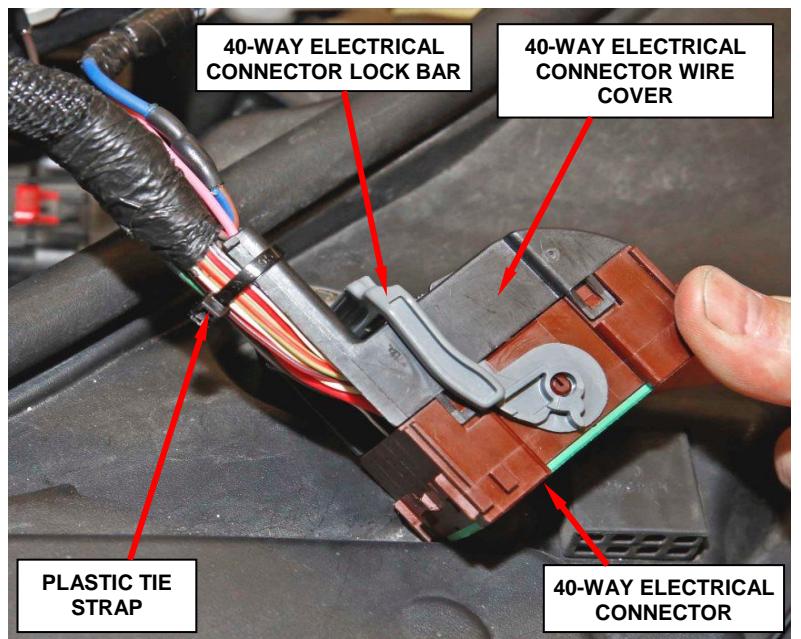

Figure 23 – Install Back Cover and Tie Strap
27. Install a plastic tie strap to hold the wire harness in place on the back side of the 40-way electrical connector (Figure 23).